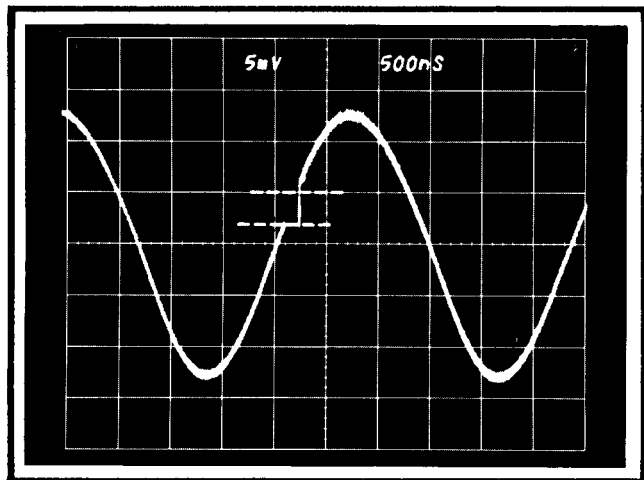

Fig. 5-14. Typical display of strobe kickback.
g. Check the vertical amplitude of the largest discontinuity for a maximum of 3 minor divisions (3 mV or less), the strobe kickback. See Fig. 5-14.